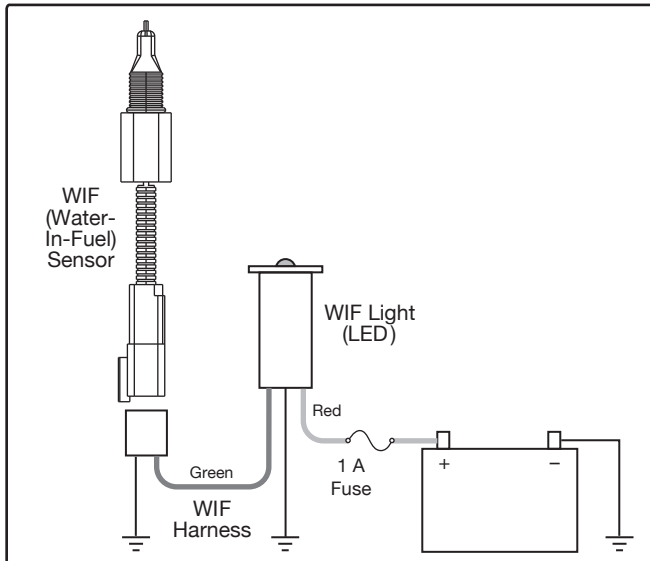

Figure 3 - WIF Wiring
8. Locate 12 VDC or 24 VDC power source. Run red wire from power source to 4" (101.60 mm) red wire on WIF LED. Add a 1 A in-line fuse (not included). (See Figure 3.)